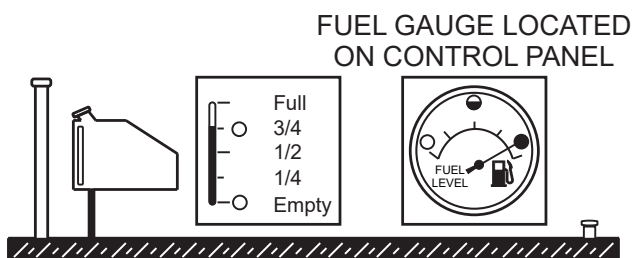

Figure 39. Trailer Fuel Gauge
3. **NEVER overfill the fuel tank.** It is important to read the **fuel gauge** (Figure 39) while filling the trailer fuel tank. **DO NOT** wait for fuel to rise inside the filler neck.